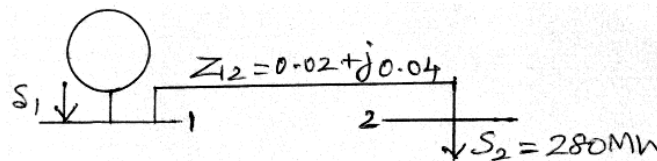

Figure 12 (b)
- (b) In the power system network shown in Figure 12 (b), bus 1 is slack bus with $V_1 = 1.0 + j0.0$ per unit and bus 2 is a load bus with $S_2 = 280\text{MW} + j60\text{MVAR}$. The line impedance on a base of 100MVA is $Z = 0.02 + j0.04$ per unit. Using Gauss — Seidal method, give V_2 . Use an initial estimate of $V_2^{(10)} = 1.0 + j0.0$ and perform four iterations. Also find S_1 and the real, reactive power loss in the line, assuming that the bus voltages have converged.